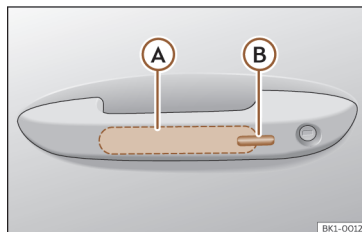

Fig. 69 Driver door lever: sensor surfaces.
>>> **Fig. 69**
- Touch the sensor surface >>> **Fig. 69** **Ⓑ** on the outside of the door handle. All turn signals flash once.
- Within 5 seconds, touch the sensor on the outside of the door handle >>> **Fig. 69 (B)** once. Do not grip the handle while doing so. This temporarily deactivates the Keyless Access system.
To close all the electric windows and the sunroof using the **comfort function**, keep a finger for a few seconds on the locking sensor surface >>> **Fig. 69 (B)** of the door handle until the windows and roof have closed.